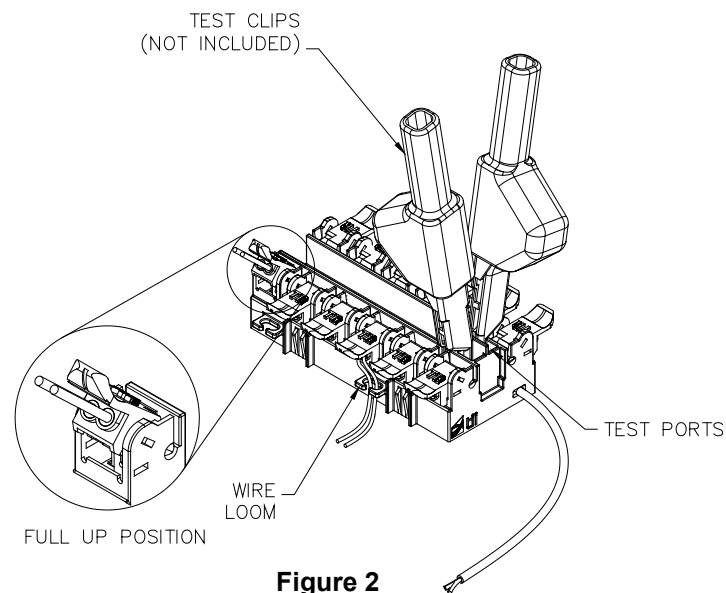

Figure 2
3. Lift the rocker to the full up position. DO NOT strip wires. Hold the wire pair to be terminated between thumb and index finger. Insert wires into wire guides simultaneously until they bottom-out. While holding wires in position, terminate rocker by lowering to the full DOWN position. Figure 2.
5. Test for continuity using the test points. Figure 2.
6. To keep wire pairs organized, route them through the molded wire looms as shown in Figure 2.